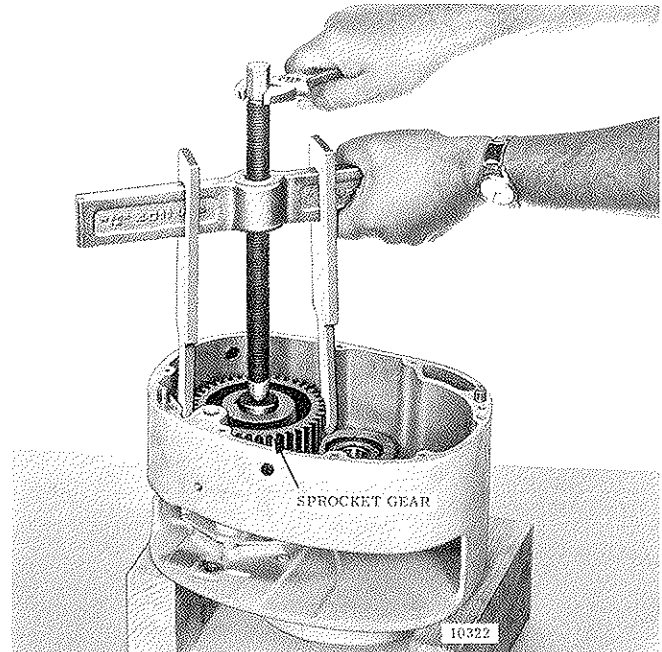

Figure 7-17. Pulling Sprocket Gear from Sprocket Shaft Using Common Puller
(1) Remove retaining ring from end of sprocket shaft and pull off sprocket gear using a common puller (fig. 7-17). Remove Woodruff key from shaft.